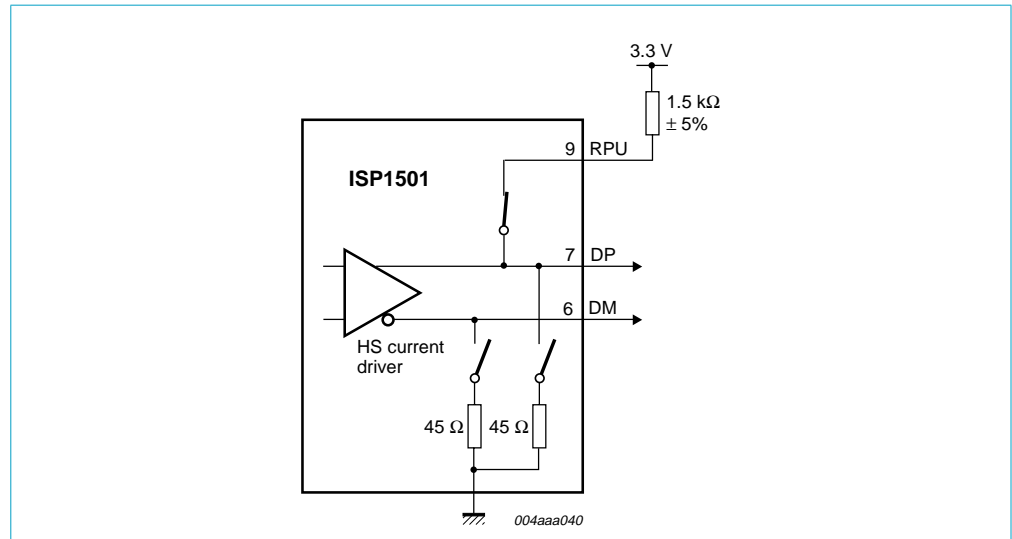

Fig 6. High-speed chirp state.
8.2.4 High-speed (HS) chirp state
In the high-speed (HS) chirp state, 45 Ω terminations are disabled from the DP and DM lines. The pull-up resistor is connected on the DP line. The HS transceiver is enabled, and the parallel interface and HS handshake signals are in use (see Figure 6).